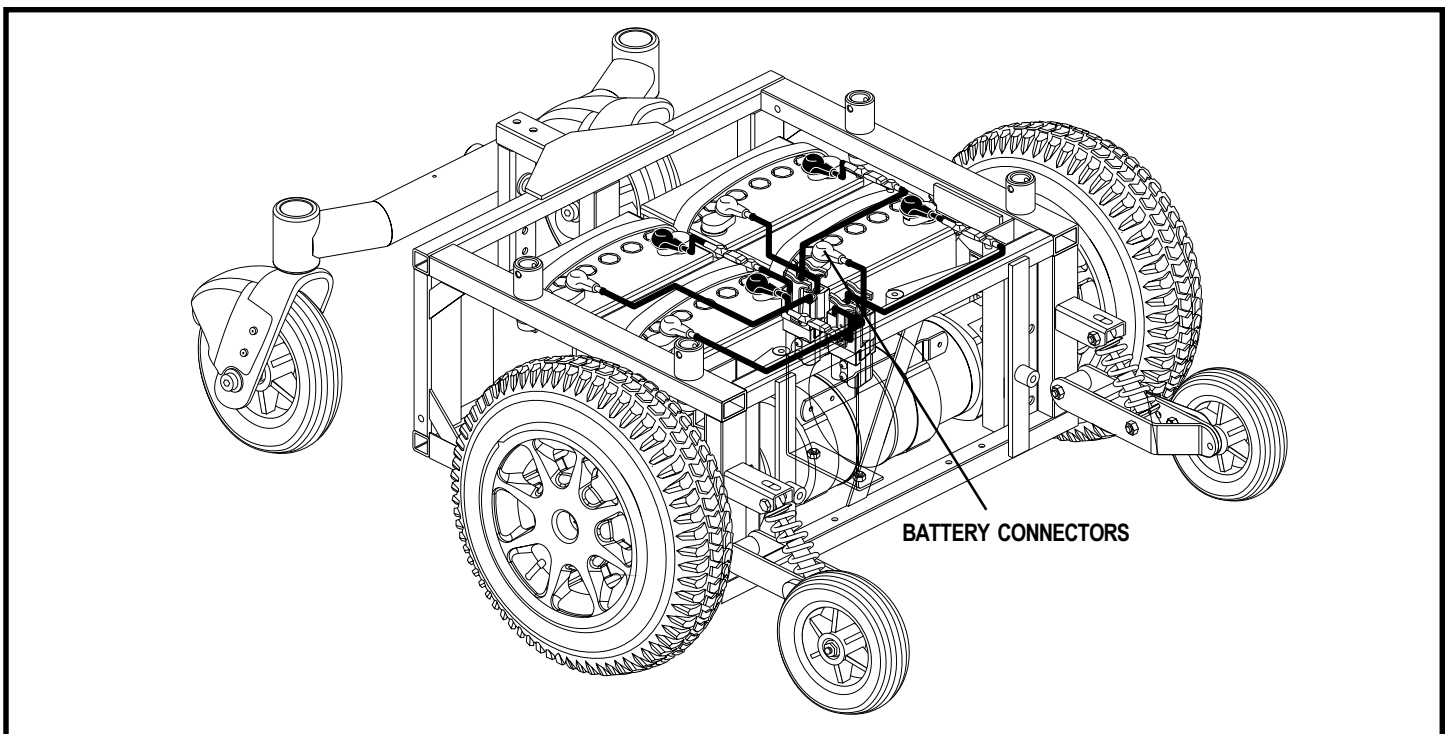

Figure 20. Quantum 1650 Battery Connections (4-battery configuration)
6. Unplug the battery quick-connector from the power base. See figure 20.